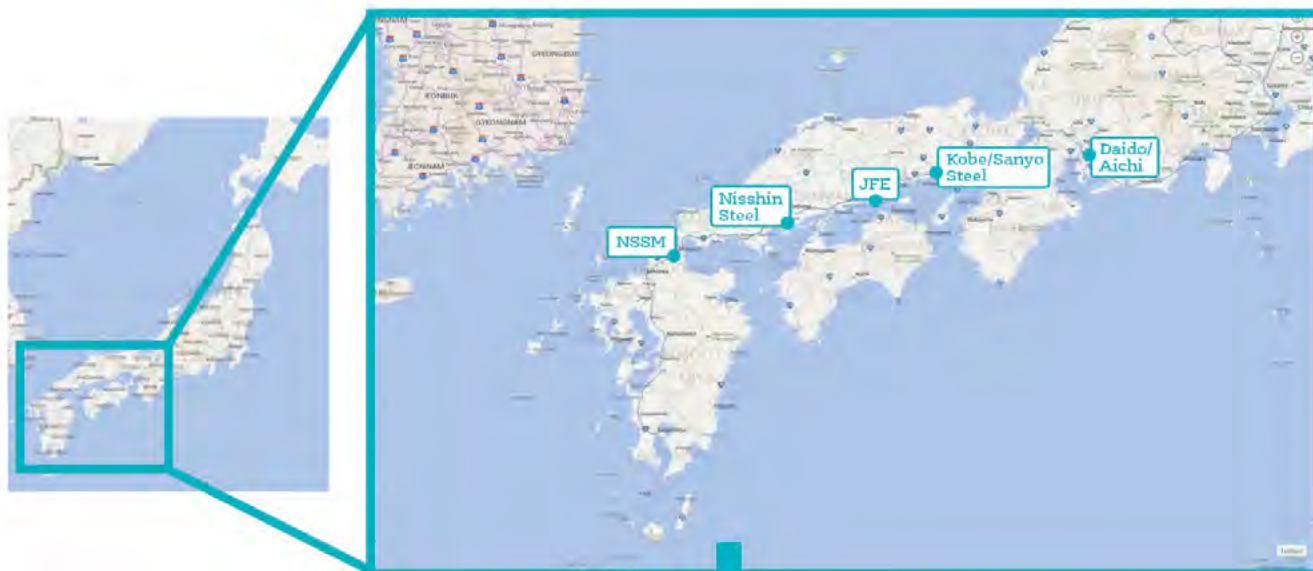

Fig. 1 — Travel map of the visited plant locations.
U.S.-based steel manufacturing companies have a long and interesting history of cooperation with Japanese steel industry firms. Some of them even today have joint-venture projects in the U.S. On the other hand, very little is published about the status of continuous casting technology in Japan, and therefore knowledge about trends in this area of steel production are not well known. All of these factors triggered a huge interest in this tour among U.S. producers. The final itinerary included three long product producers (Sanyo Special Steel, Daido Steel Co. Ltd. and Aichi Steel) and four flat product producers (Kobe Steel, JFE Steel, Nisshin Steel and Nippon Steel & Sumitomo Metal Corp.). Fig. 1 shows the locations of the plants visited.